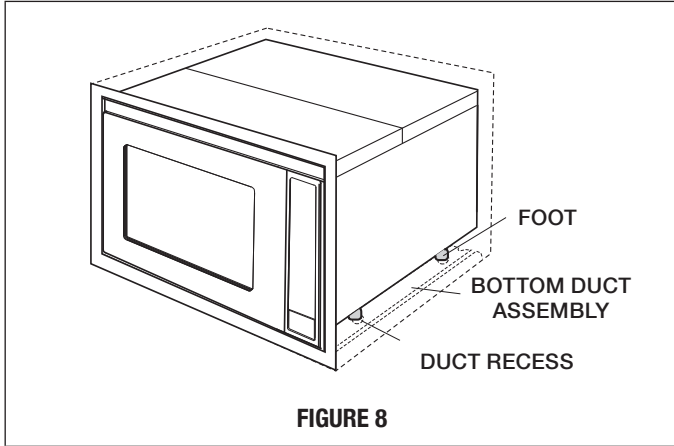

FIGURE 8
C. CABINET INSTALLATION: Avoid pinching the cord between the oven and the wall. Adjust the position of the oven so that the feet of the oven are fitted into the holes of the BOTTOM DUCT ASSEMBLY. See Figure 8.